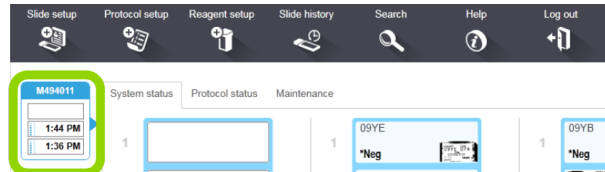

Figure 60: BOND RX screen with Processing Module icon indicated
4. Load the BOND Research Detection System onto the BOND RX/RX^m. The instrument will recognize containers and, depending on your Dip Test settings, may check container volumes. Once finished, you may click on the **Processing Module** icon (see Figure 60) to view the status of any of the containers in the **System Status** window. Right-click on the desired container and select **Inventory** to view the volume measured in the container. Refill if required.